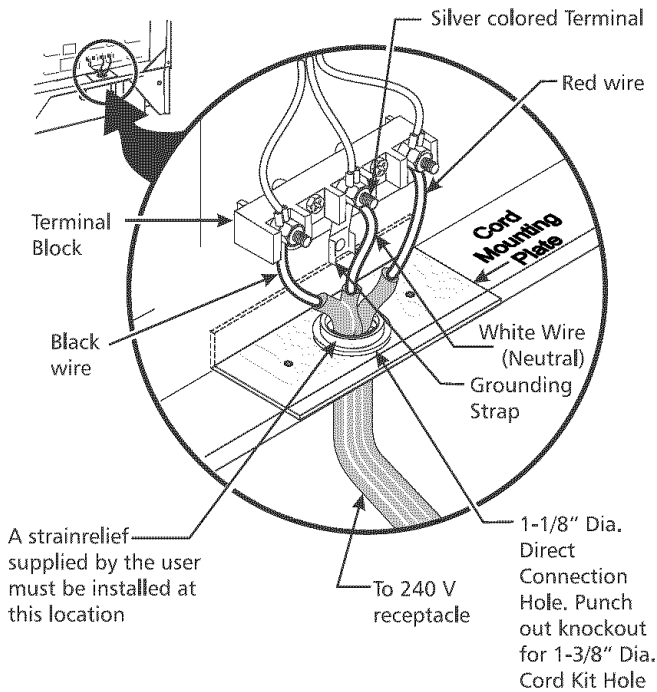

Figure 3
NOTE: Dual fuel Slide-in Range is shipped from factory with 1 1/8" dia. hole as shown on figure 3. If a larger hole is required, punch out the knockout.
(The 3-conductor cord or cable must be replaced with a 4-conductor cord or cable where grounding through the neutral conductor is prohibited in new installations, mobile homes, recreational vehicles or in other areas where local codes do not permit neutral grounding) If local codes permit connection of the frame grounding conductor to the neutral wire of the copper power supply cord (see Figure 3).
4. Replace the 3 nuts on the terminal block. (See figure 3)